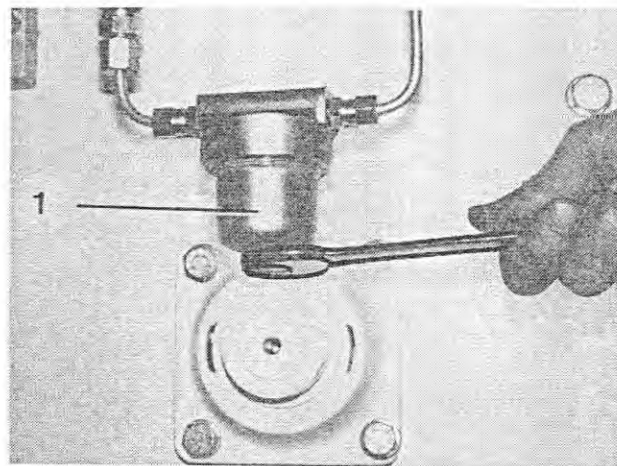

Fig. 77
2. Unscrew the collecting vessel (Figure 77/1) of the filter.